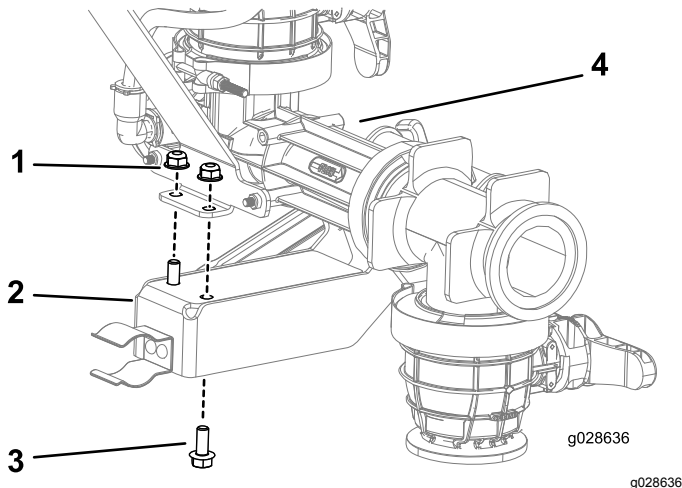

Figure 11
1. Attach the handle to the eductor using 2 flange-head bolts and 2 flange nuts (Figure 11).